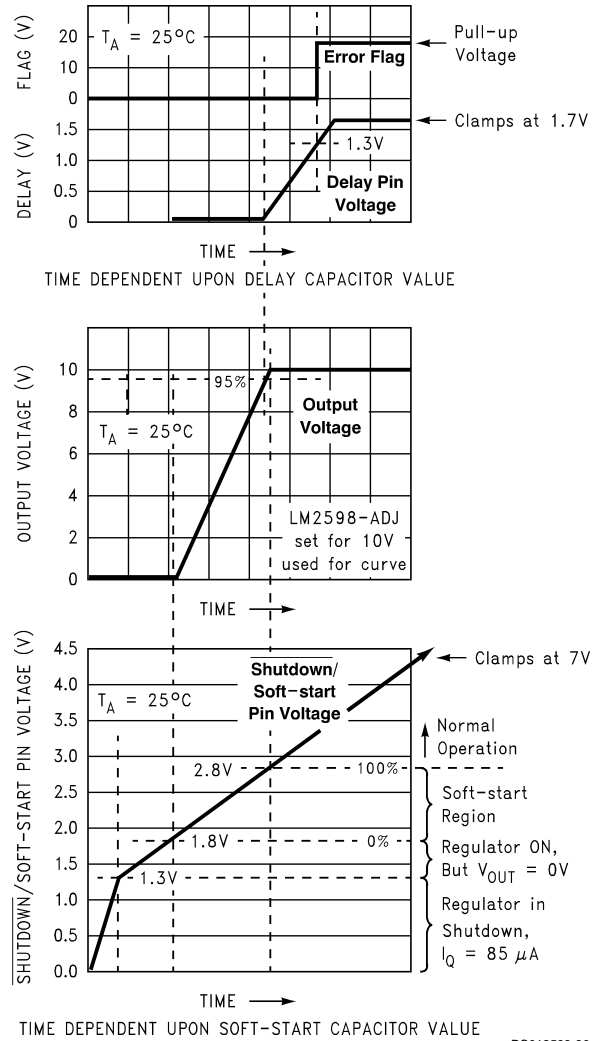

FIGURE 13. Soft-start, Delay, Error, Output
C_{SS} —A capacitor on this pin provides the regulator with a Soft-start feature (slow start-up). When the DC input voltage is first applied to the regulator, or when the \overline{SD} /Soft-start pin is allowed to go high, a constant current (approximately $5 \mu A$) begins charging this capacitor). As the capacitor voltage rises, the regulator goes through four operating regions (See the bottom curve in Figure 13).
3. Soft-start Region. When the \overline{SD} /SS pin voltage is between 1.8V and 2.8V (@ $25^\circ C$), the regulator is in a Soft-start condition. The switch (Pin 1) duty cycle initially starts out very low, with narrow pulses and gradually get wider as the capacitor \overline{SD} /SS pin ramps up towards 2.8V. As the duty cycle increases, the output voltage also increases at a controlled ramp up. See the center curve in Figure 13. The input supply current requirement also starts out at a low level for
Note: The lower curve shown in Figure 13 shows the Soft-start region from 0% to 100%. This is not the duty cycle percentage, but the output voltage percentage. Also, the Soft-start voltage range has a negative temperature coefficient associated with it. See the Soft-start curve in the electrical characteristics section.
C_{DELAY} — Provides delay for the error flag output. See the upper curve in *Figure 13*, and also refer to timing diagrams in *Figure 14*. A capacitor on this pin provides a time delay between the time the regulated output voltage (when it is increasing in value) reaches 95% of the nominal output voltage, and the time the error flag output goes high. A 3 μ A constant current from the delay pin charges the delay capacitor resulting in a voltage ramp. When this voltage reaches a threshold of approximately 1.3V, the open collector error flag output (or power OK) goes high. This signal can be used to indicate that the regulated output has reached the correct voltage and has stabilized.